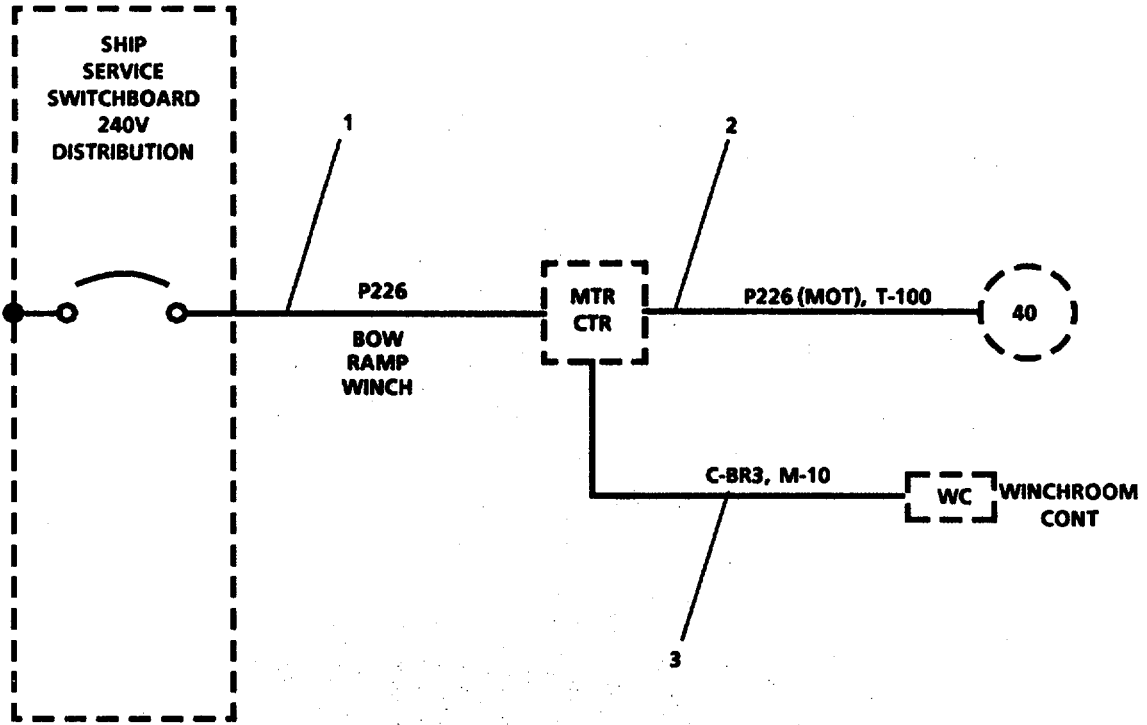

FIGURE 3-150. Winch Bow Ramp Power Distribution
**3-164. Replace/Repair Winch, Bow Ramp, Power Distribution. (Figure 3-150).**